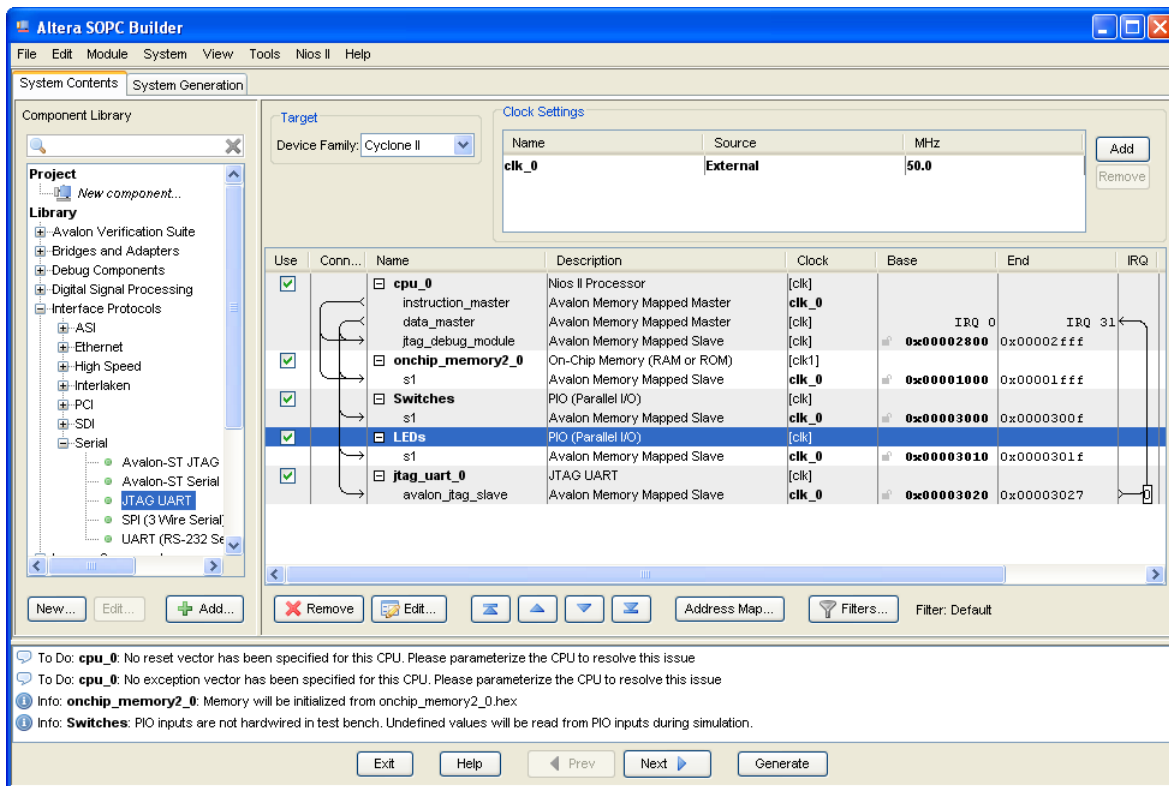

Figure 14. The final specification on a DE-series board.
11. The base and end addresses of the various components in the designed system can be assigned by the user, but they can also be assigned automatically by the SOPC Builder. We will choose the latter possibility. So, select the command (using the menus at the top of the SOPC Builder window) **System > Assign Base Addresses**, which produces the assignment shown in Figure 14.
A parallel I/O interface generated by the SOPC Builder is accessible by means of registers in the interface. Depending on how the PIO is configured, there may be as many as four registers. One of these registers is called the Data register. In a PIO configured as an input interface, the data read from the Data register is the data currently present on the PIO input lines. In a PIO configured as an output interface, the data written (by the Nios II processor) into the Data register drives the PIO output lines. If a PIO is configured as a bidirectional interface, then the PIO inputs and outputs use the same physical lines. In this case there is a Data Direction register included, which determines the direction of the input/output transfer. In our unidirectional PIOs, it is only necessary to have the Data register. The addresses assigned by the SOPC Builder are 0x00003000 for the Data register in the PIO called Switches and 0x00003010 for the Data register in the PIO called LEDs, as indicated in Figure 14.